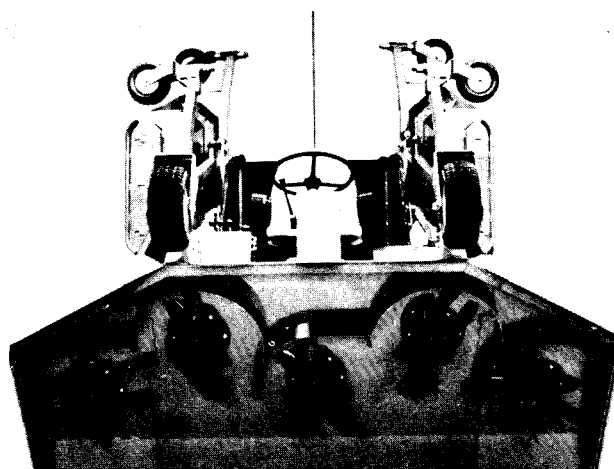

Figure 14
Note: Although not needed for normal maintenance procedures, the front cutting unit can be pivoted (tilted) to a fully upright position (Fig. 14).
6. Use at least one other person to tilt the cutting unit. Grasp the front of the unit and lift it to an upright position (Fig 14).